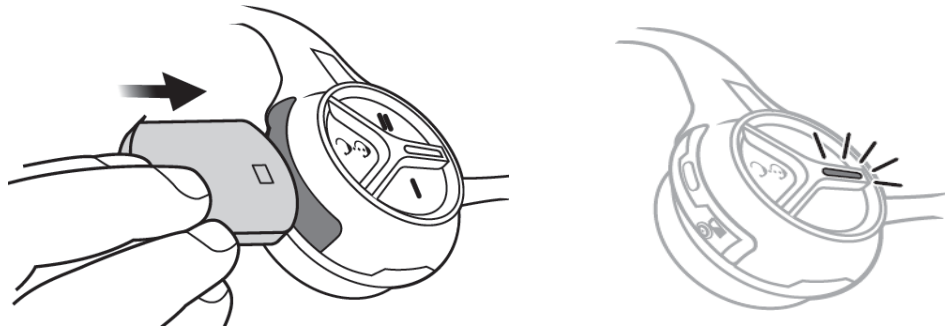

Figure 11.
5. Insert battery into the now assembled headset. See Figure 11.